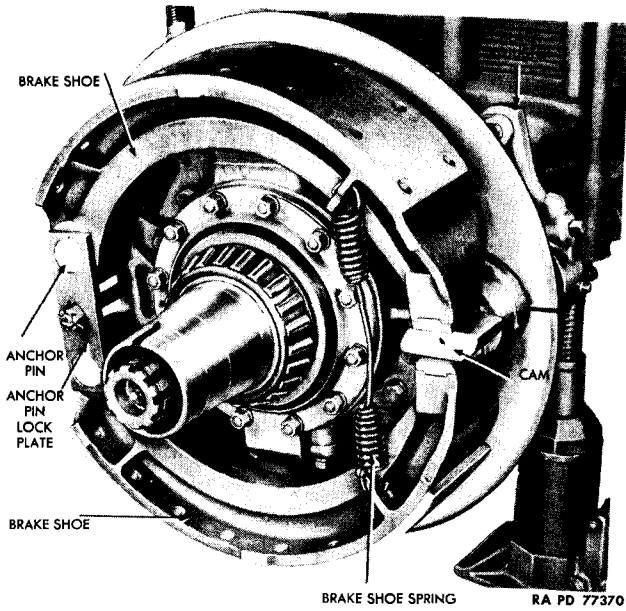

Figure 76 — Front Brake Shoes Installed
(1) **DESCRIPTION (figs. 76 and 77).** Two brake shoes are attached to a backing plate inside each of the four brake drums. Two anchor pins hold adjacent ends of shoes in place. The opposite ends of shoes are pulled together by a brake shoe spring. A cam, located between these ends, pivots when brakes are applied, and pushes ends of shoes apart. This presses lining riveted to shoes against brake drum, creating a braking action. When the brakes are released, the cam pivots back to its original position, and the brake shoe spring draws the shoes toward each other.
- (3) REMOVE BRAKE SHOE SPRING (figs. 76 and 77). Use slack adjuster to turn camshaft until shoes are at lowest point on cam. Slide brake shoe spring from holes in shoes. *NOTE: Rear wheel brakes have two springs.*
- (4) REMOVE ANCHOR PIN LOCK PLATE (figs. 76 and 77). Remove cotter pin and stud nut which hold lock plate on pins, and lift plate from pins.
- (5) REMOVE SHOES (figs. 76 and 77). Pull both shoes from anchor pins.
- (1) ATTACH SHOES TO ANCHOR PINS (figs. 76 and 77). Position shoes on anchor pins. Position lock plate on pins and shoes, and install stud nut and cotter pin which secures lock plate to pins.
- (2) INSTALL BRAKE SHOE SPRING (figs. 76 and 77). Pull free ends of shoes together, and insert spring and clips through holes in brake shoes. Install two springs on rear wheel brake.
- (3) INSTALL HUB AND WHEEL (pars. 133 and 134).
- (4) ADJUST BRAKES (par. 126).